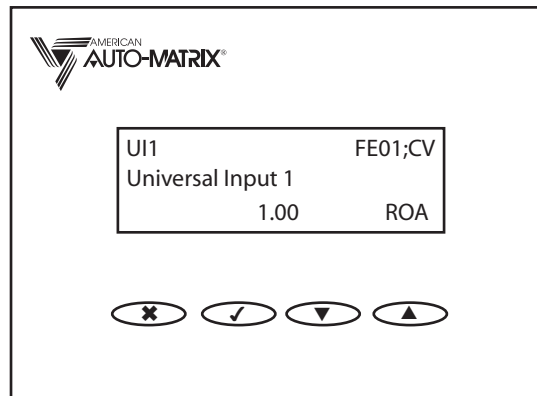

Figure 4-6 Control Monitor Screen
The Control Monitor Menu allows you to select the type of channel whose **CV** attribute you wish to monitor. You may choose Universal Inputs (UI), Digital Inputs (DI), Analog Outputs (AO), or Digital Outputs (DO). Use the **▲** and **▼** buttons to highlight the type of channel you wish to monitor and press the **✓** button to select that type. Once you have selected the type of channel to monitor, you will see the Control Monitor screen shown in Figure 4-6.